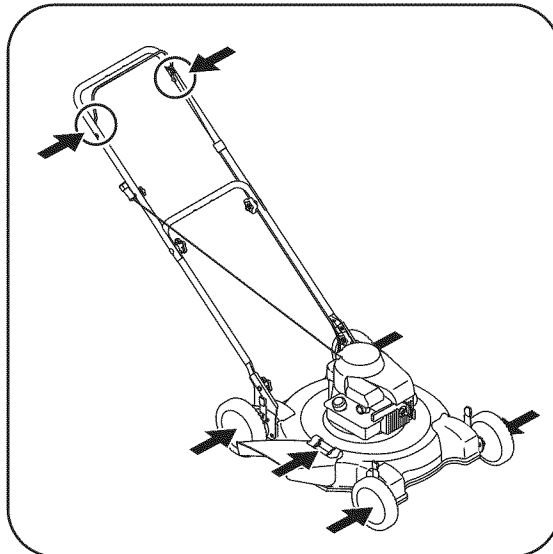

Figure 5-1: Lubrication areas on the mower.
- Lubricate pivot points on the blade control handle at least once a season with light oil. The blade control must operate freely in both directions, Figure 5-1.
- Lubricate the wheels at least once a season with light oil (or motor oil). If wheels are removed for any reason, lubricate surface of the axle bolt and inner surface of the wheel with light oil, Figure 5-1.
- Lubricate the torsion spring and pivot point on the chute deflector periodically with light oil to prevent rust, Figure 5-1.